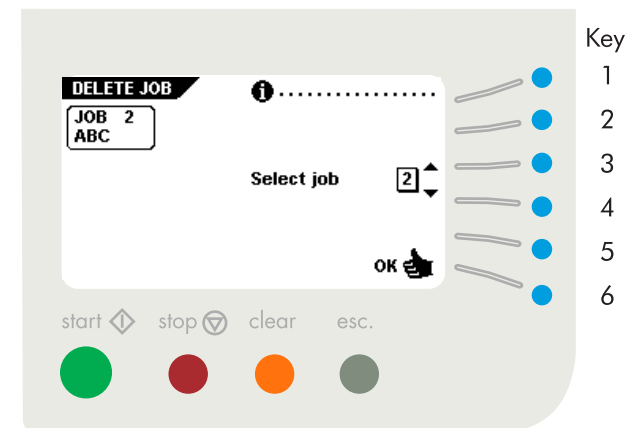

Fig. 34
After pressing key 5 in the "job menu", the display shows the "delete job" menu, as shown in fig. 34.